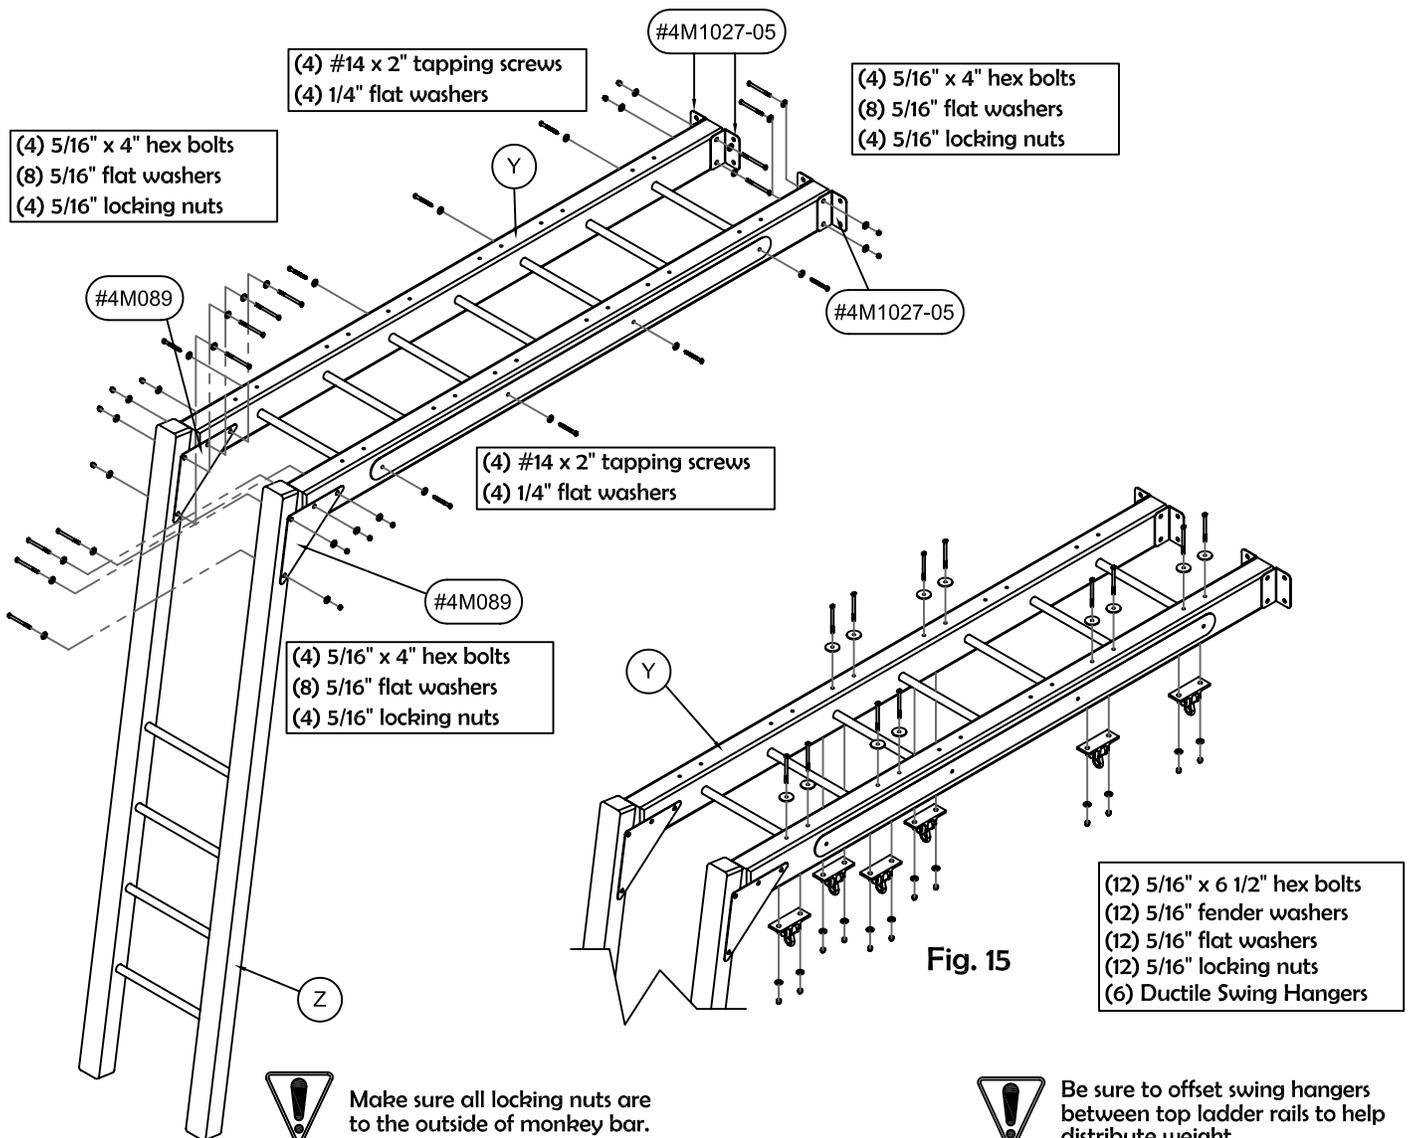

Fig. 15
Place (6) Ductile Swing Hangers and fasten as shown in Fig. 15.